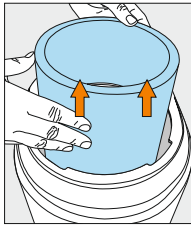
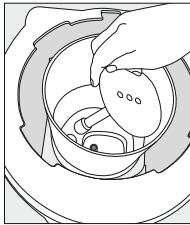

Figure 33
Figure 34
4. Using fingers of both hands, loosen and remove the insulation jacked covering the plastic reservoir from the cooler opening (Figure 33). (Note: On Hot & Cold models, after step 4 unscrew the round plastic one piece baffle) (Figure 34)